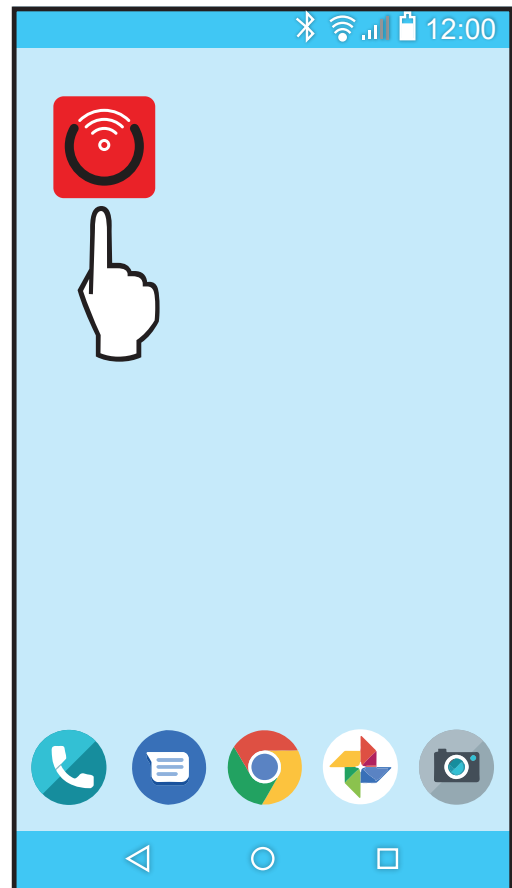

Figure 76. Find your Raymote Mobile App Icon
2. Find the Raymote mobile app icon on your device. See **Figure 76**.